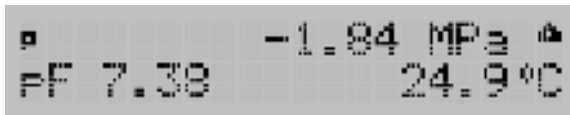

Figure 1 Triangular warning sign
- Consult troubleshooting (Section 4.5) if the triangular warning symbol appears in the top right corner of the display (Figure 1).